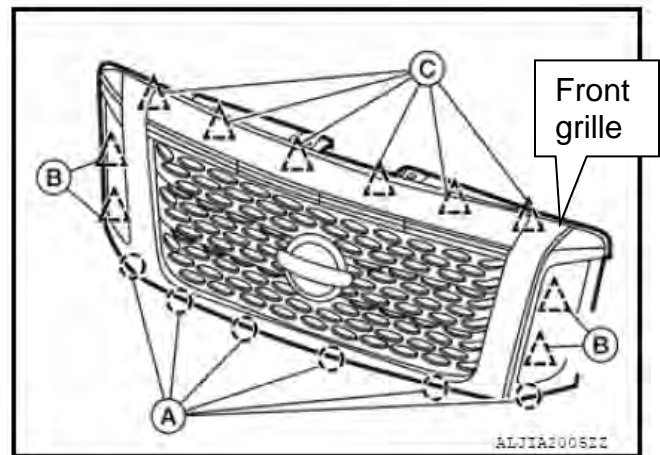

Figure 1
- a. Release the pawls (A) and clips (B & C) shown in Figure 1.